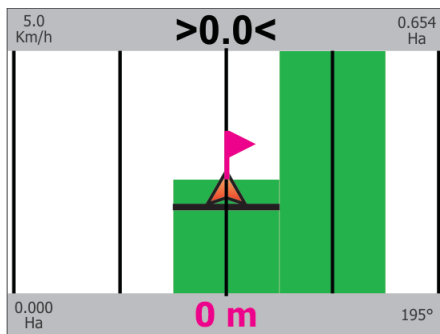

Fig. 119
- Once you reach the flag position, distance value gets to "zero" (Fig. 119): press **OK** or **ESC** to quit this procedure.